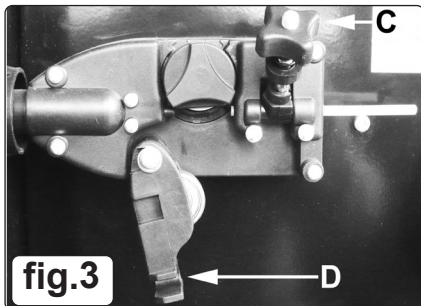
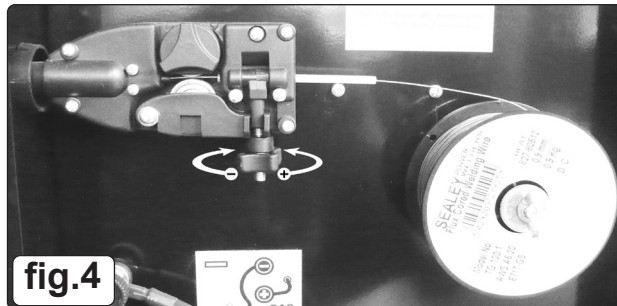
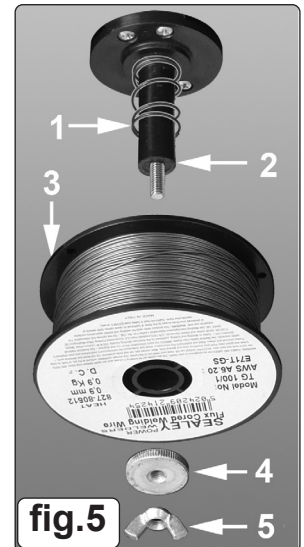

fig.3
fig.4
fig.5
5.1. FITTING A REEL OF WIRE (fig.3, fig.4, fig.5)
5.1.1. Lift the black catch on the side of the welder and open the side compartment to gain access to the wire mechanism and the wire spool holder. See fig.3. The welder is supplied with a mini spool containing 0.45kg of flux cored wire.
5.1.2. Referring to fig.5, rotate the butterfly nut (5) anti-clockwise and remove it from the threaded spindle together with the pressure disc (4). Leave the spring (1) on the spindle (2).
5.1.5. Referring to fig.3 turn the knob on the wire lock screw (C) anti-clockwise and lift it up and away from the pressure roller moulding. Swing the pressure roller moulding (D) away from the drive roller.
5.1.7. Referring to fig.4, move the pressure roller moulding back round onto the grooved drive wheel and swing the wire lock screw back down to lock it in place. See section 5.2 regarding wire tension.
IMPORTANT: You must set the correct tension, too little or too much tension will cause problematic wire feed and result in a poor weld. Turn the wire lock screw clockwise to increase the tension and anticlockwise to decrease the tension as shown in fig.4.